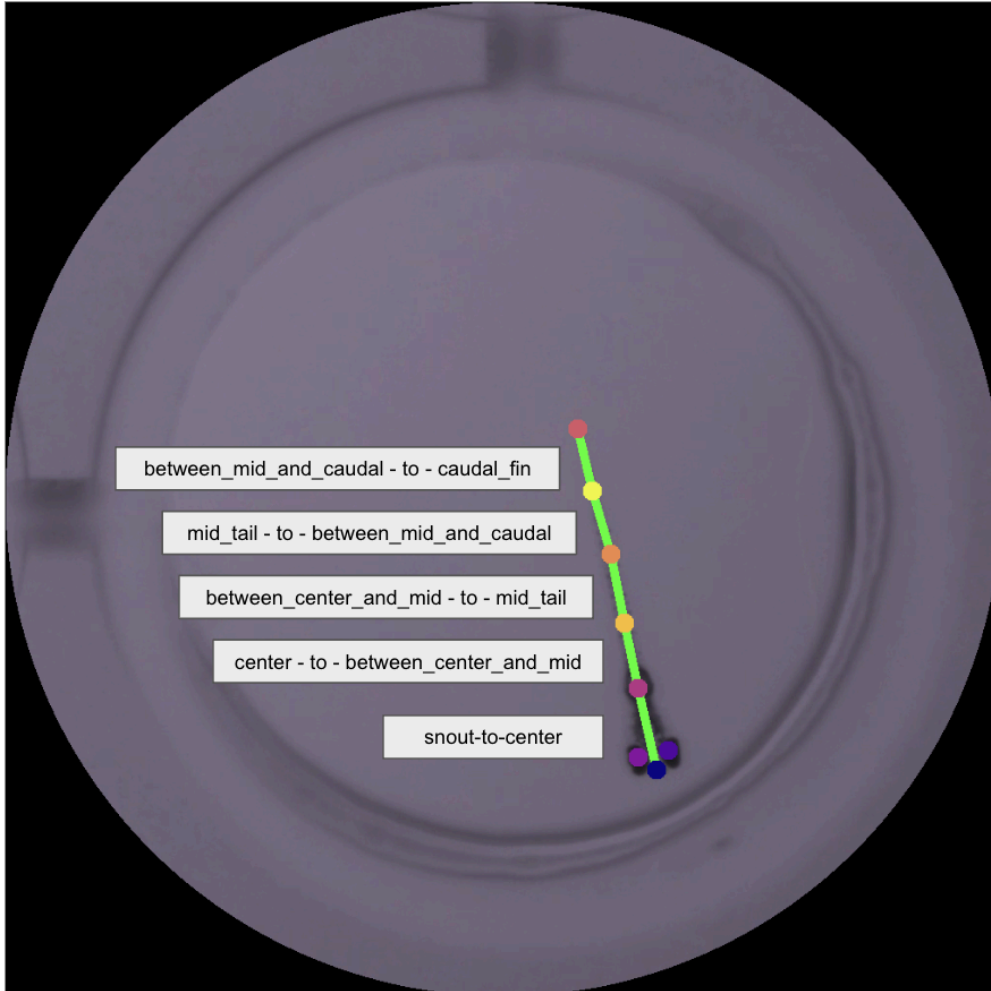

Fig 53: Fish length segments diagrammed on a specimen.
A function for computing fish length is included in the MCAM™ Zebrafish Analysis package. Five skeleton segments are defined using the eight key point tracking model and the lengths of these segments are computed using euclidean distance for each frame. The **median** value of each segment across all frames is selected as the computed length for each segment in order to filter out extreme values that may exist from one frame of faulty tracking. The five (5) segments of interest here (Fig 53) are the: